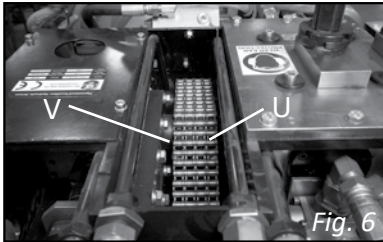

Fig. 6
Tip: If a position change is required, remove the four Socket Head Cap Screws (*S*, Fig. 6), fit wheel supports in the proper slots for the diameter being cut and reinstall the screws.
- A. Thread the Drive Chain (*U*) through the machine and onto the Drive Chain Sprockets (*V*, Fig. 6). Refer to Table 1, page 6